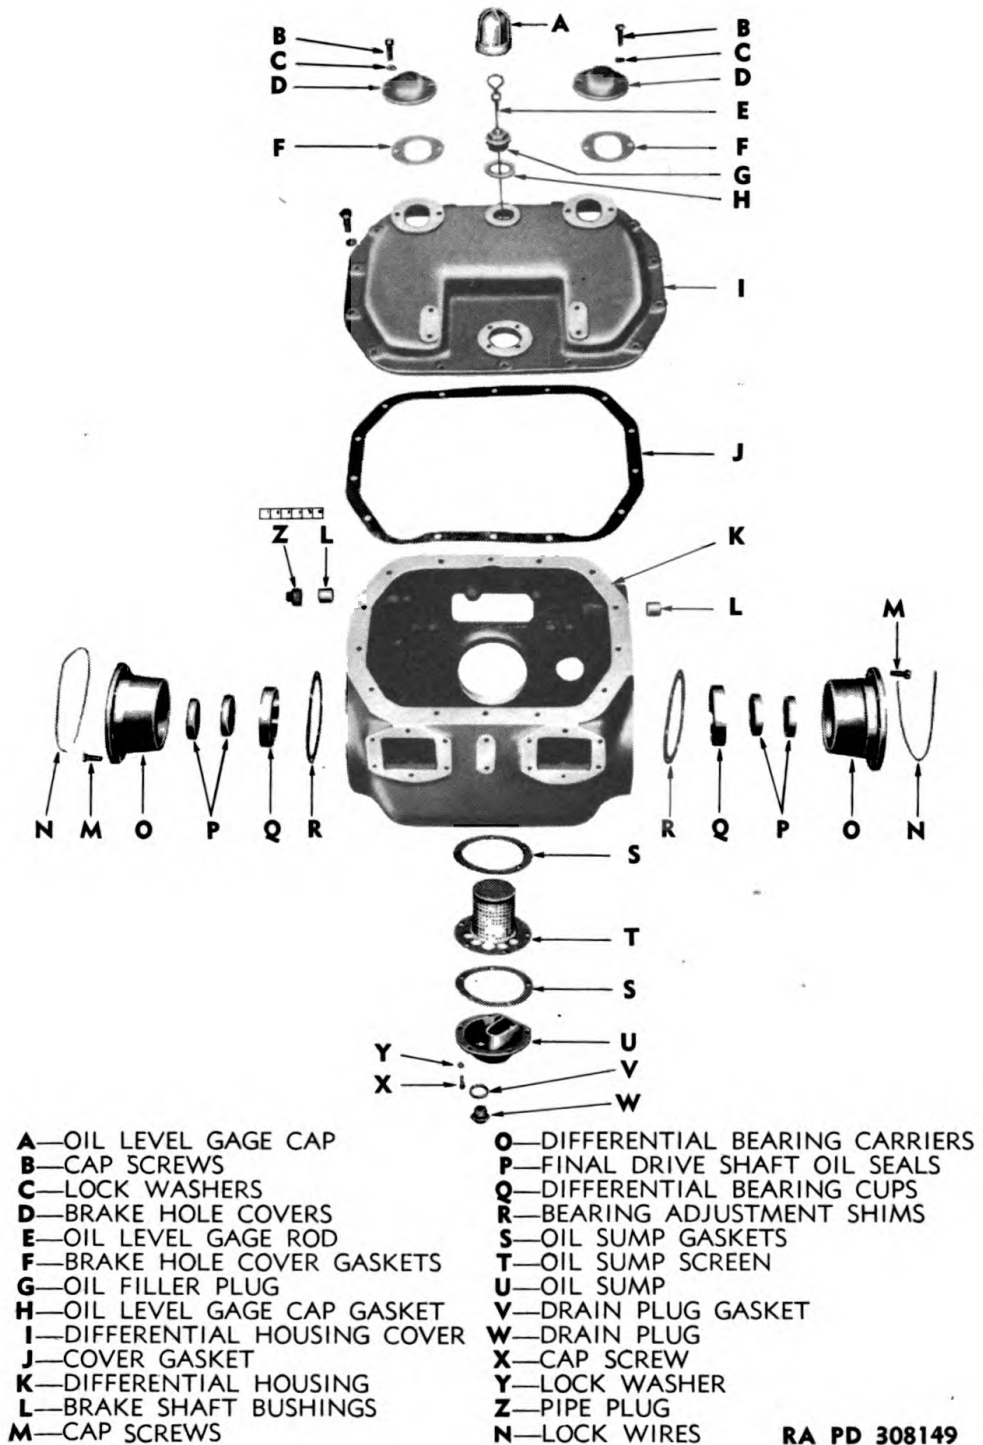

Figure 49 — Differential Case and Covers Disassembled
(4) DIFFERENTIAL CASE (fig. 49). File off any burs on machined surfaces that would prevent correct contact of mating parts. Inspect case for cracks or breaks and inspect drain plug magnet to make sure it will attract small metal particles.